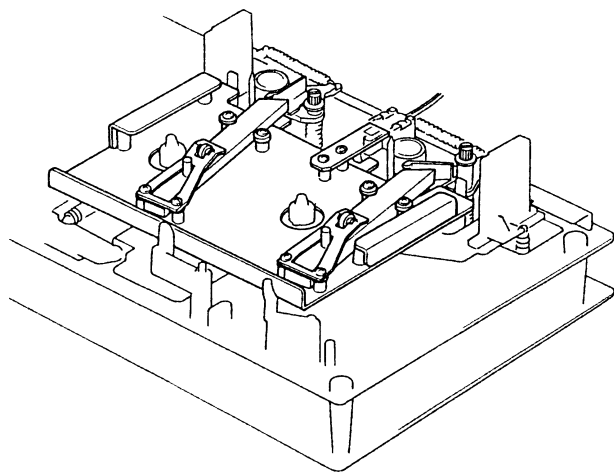

Fig. 4.14
Remove Head Mount Base Ass'y referring to item 2.25. Refer to Figs. 4.14 and 4.15.
(1) Supply Tape Guide Height Adjustment
(2) Take-up Tape Guide Height Adjustment